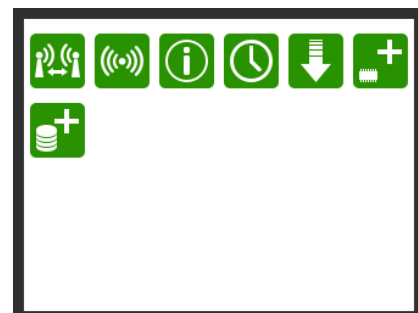

Figure 6-15 Start screen
1. In the screen (Figure 6-15) press